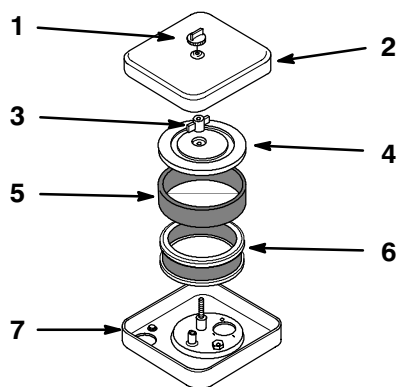

Figure 15
3. Clean around the air cleaner to prevent dirt from getting into the engine and causing damage. Remove the knob and air cleaner cover (Fig. 15).
4. Unscrew the nut and remove the cover, foam element and paper element (Fig. 15).
5. Carefully slide the foam element off the paper element (Fig. 15).
- 1. Carefully slide the foam element onto the paper air cleaner element (Fig. 15).
- 2. Place the air cleaner assembly into air cleaner base. Slide cover onto rod and secure with nut (Fig. 15).
- 3. Install the air cleaner cover and secure with wing nut (Fig. 15).